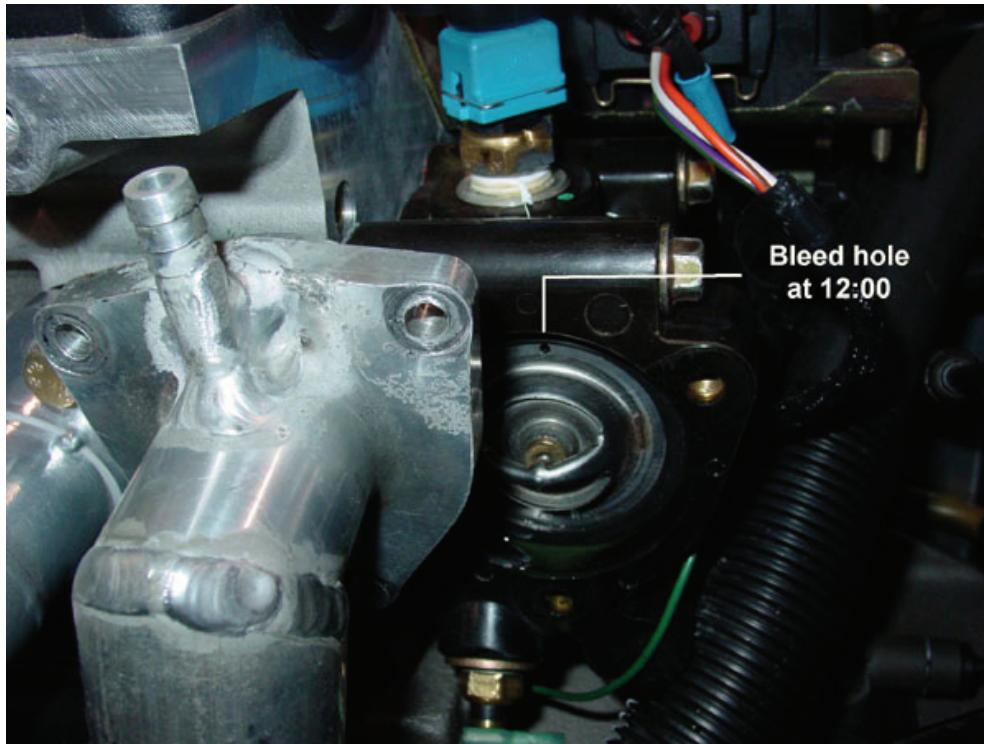

Fig.4
3. Move water neck back out of way. (See Fig.4)
6. Install new thermostat with bleed hole at 12:00. (See Fig.4)